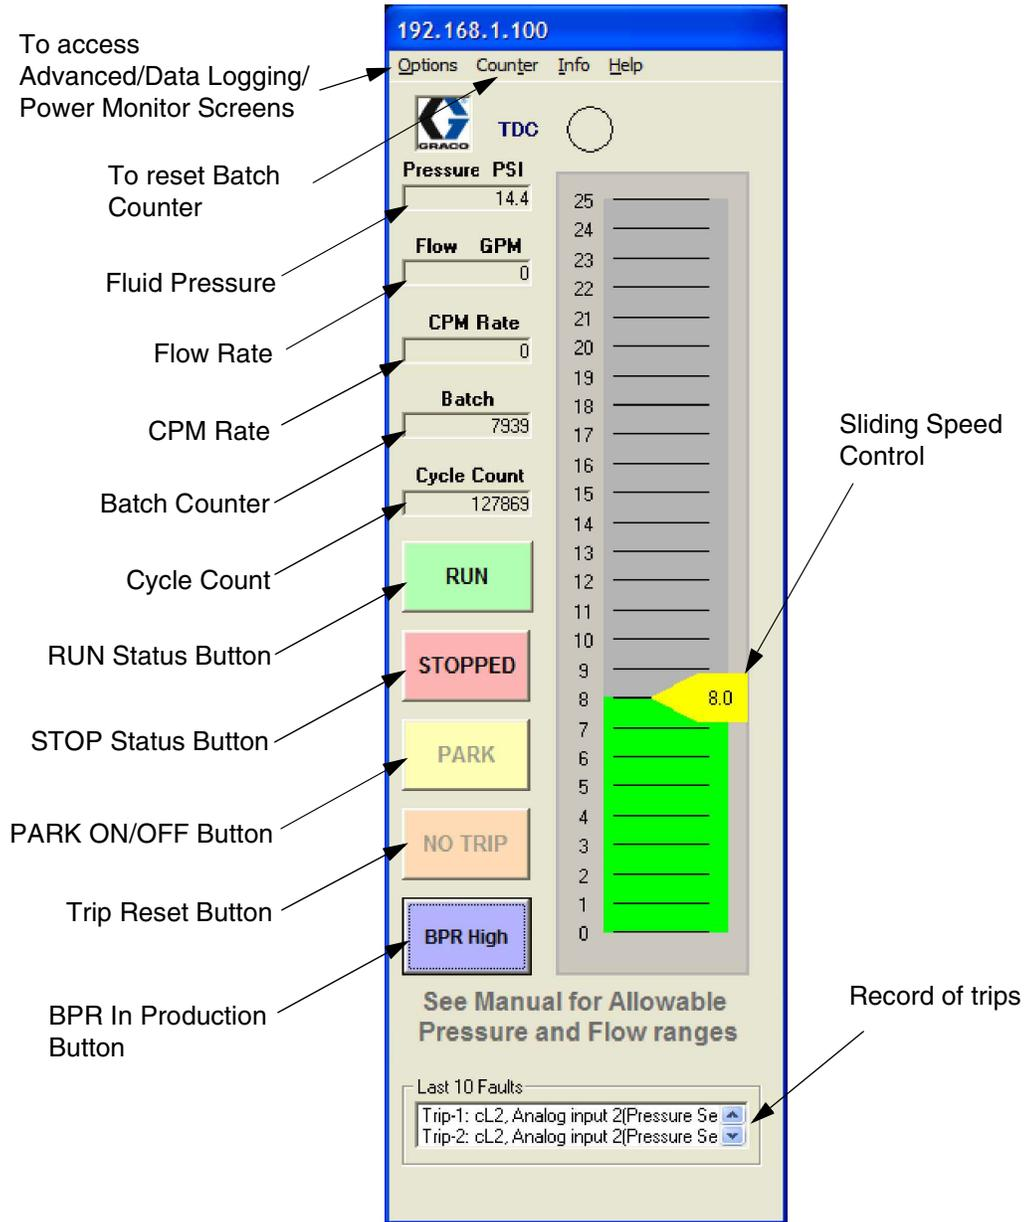

FIG. 22. Run Screen
3. Click CONNECT. See FIG. 19. The Run screen appears. See FIG. 22. The Network Setup window will close when connection is made.
See FIG. 22. The sliding scale on the Run screen sets the pump speed in units of flow.
See FIG. 22. The counters are active in both remote and local mode.
See FIG. 22. In remote mode, the buttons are active and may be used to control the pump.